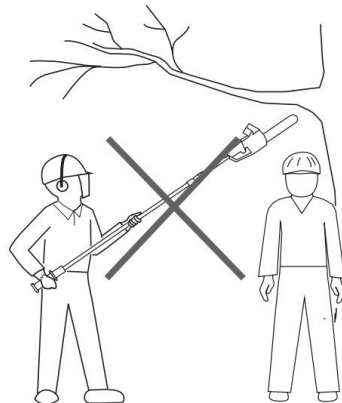

Fig. 52
5. Keep other persons away from cutting end of product and at a safe distance from the work area. Maintain a minimum distance of 10 m to bystanders (Fig. 52).